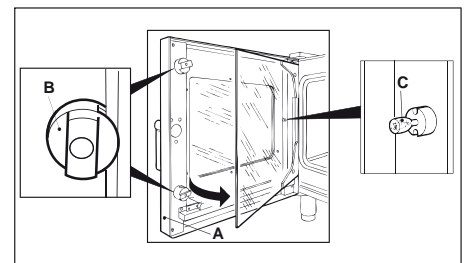

fig. 9
- 1) Open the oven door (A - fig. 9).
- 2) Turn the plastic locks (B - fig. 9) blocking the internal glass and lay it open (like opening a book).
- 3) Replace the light bulb (C - fig. 9).